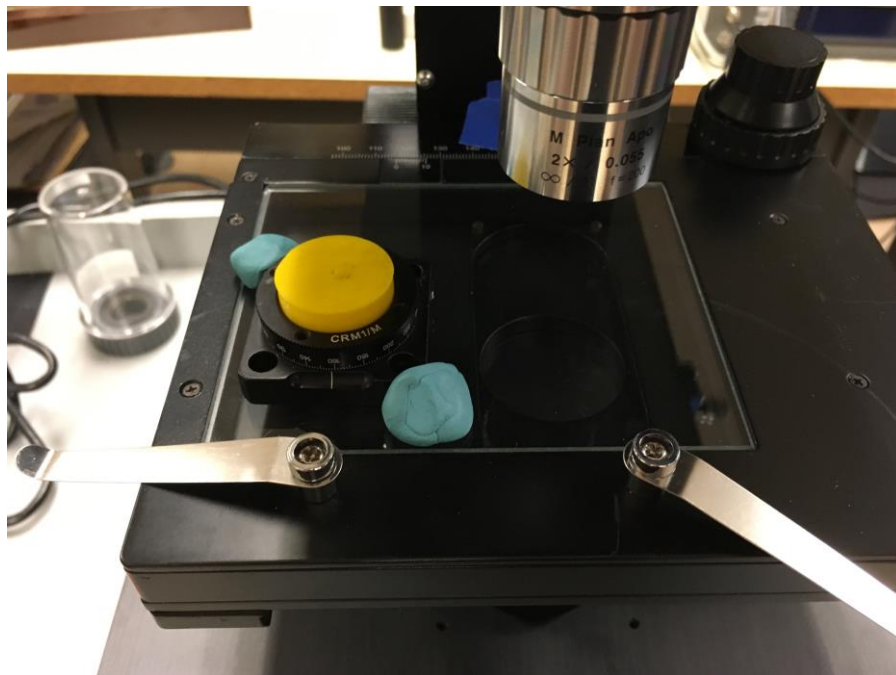

Figure 15 Position of Rotator.
2. **Centering an optic:** Place the rotation stage with the Hinds supplied alignment pinhole onto the stage and fix it with blue sticky tack. It should look like Figure 15. Generally, it's best to have the mark facing forward for ease of reading the measurement.